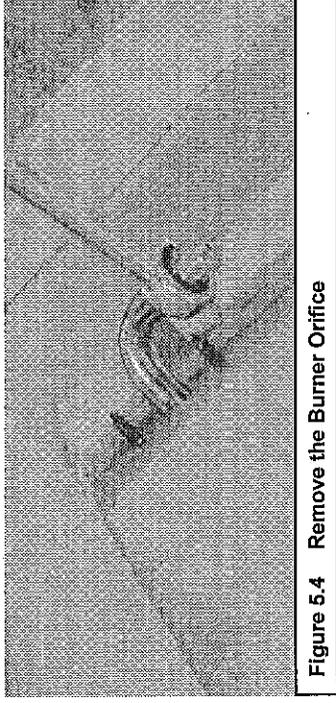

Figure 5.4 Remove the Burner Orifice
- Using a 1/2 in. wrench remove the threaded orifice (see Figure 5.4), discard and replace with the appropriate propane gas orifice.